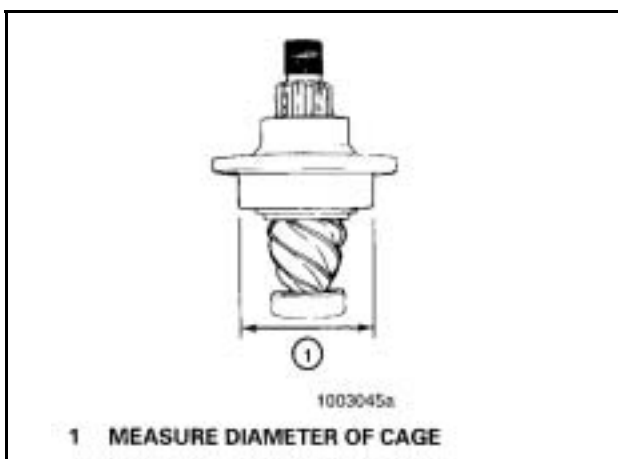

Figure 64
- g. Measure the diameter of bearing cage where the cord was wound. Measure in inches or centimeters. **Figure 64.**